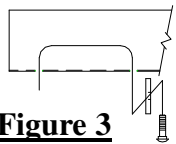

Figure 3
- Fishwire carriage bolts and spacer blocks up thru access holes in each frame rail and down thru attaching holes as shown above. See figure 3.